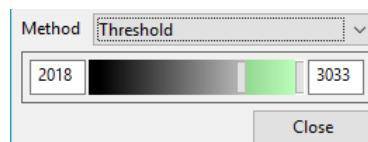

Figure 6.28: Adjust the threshold.
- **Threshold:** This method selects the pixels whose intensity are inside the minimum and maximum threshold (figure 6.28).